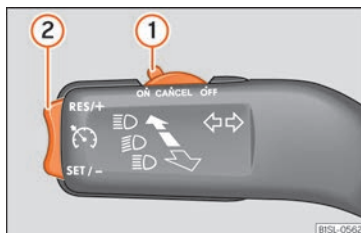

Fig. 140 On the turn signal lever: controls for operating the GRA.
- Move the control » Fig. 140 ① to **ON**.
- Press button » Fig. 140 ② in area **SET/-**.
- Move the control » Fig. 140 ① to **CANCEL** or step on the brake.
- Press button » Fig. 140 ② in area **RES/+**.
While the GRA is set, the stored speed can be adjusted with button » Fig. 140 ②:
- To increase in increments of 1 km/h (1 mph) briefly press button » Fig. 140 ② in the area **RES/+**.
- To increase the speed without interruption, keep button » Fig. 140 ② pressed down in the area **RES/+**.
- To reduce in increments of 1 km/h (1 mph) briefly press button » Fig. 140 ② in the area **SET/-**.
- To decrease the speed without interruption, keep button » Fig. 140 ② pressed down in the area **SET/-**.
- Move control » Fig. 140 ① to **OFF**.